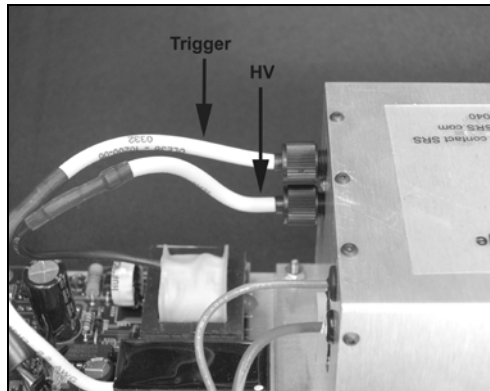

Figure 25. Connect the trigger and HV connector plugs to their respective receptacles.
9. Connect the trigger and HV lead connectors to the appropriate receptacle, as shown in Figure 25. Be sure to tighten the knurled nuts for each connector to the receptacle.